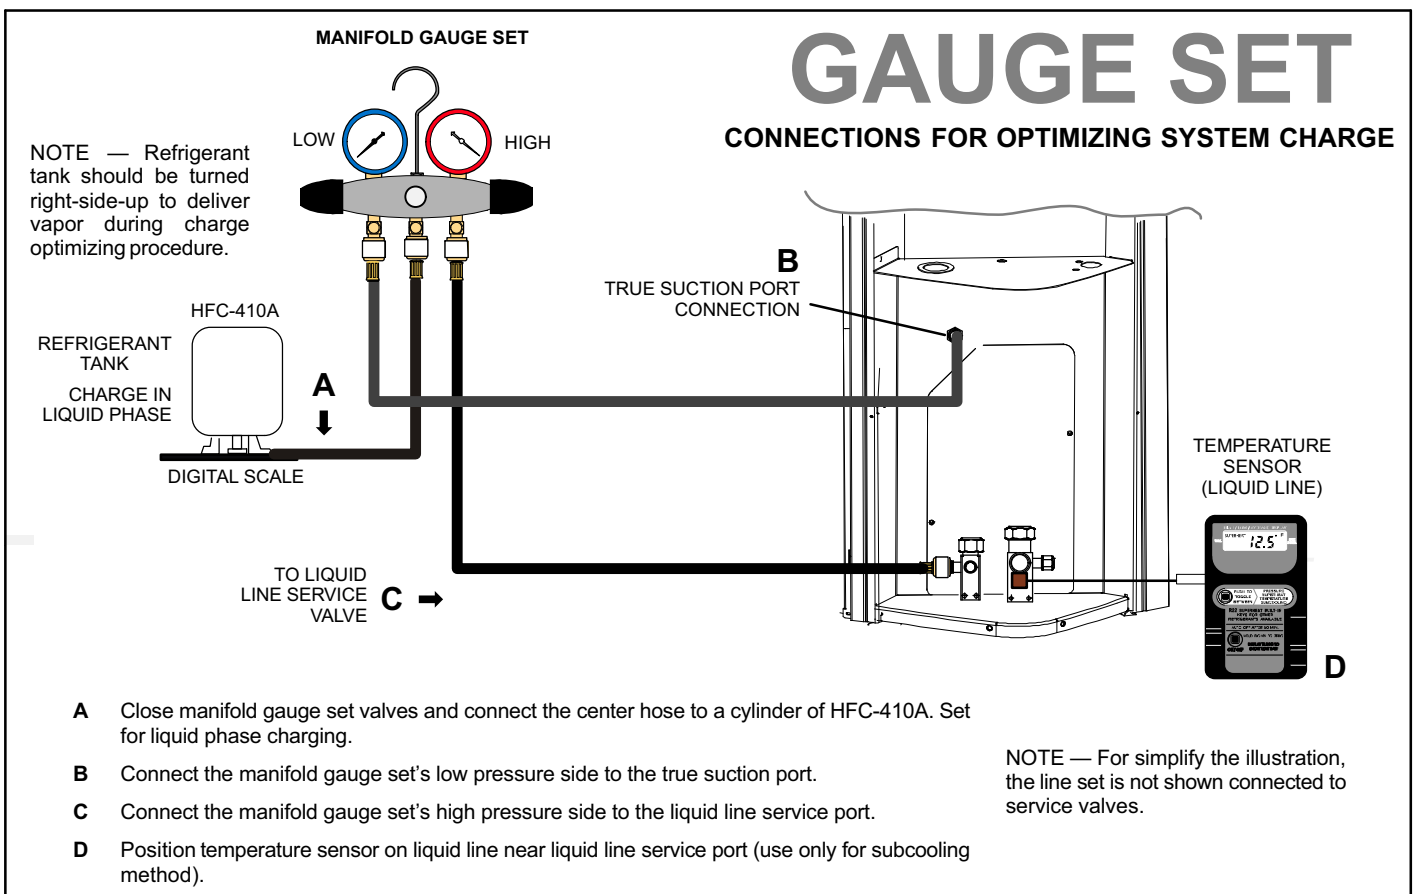

Figure 17. Typical Gauge Set Connections for Initial Weight-in Charge or Optimizing System Charge
3. Verify that the manifold gauge set is connected as illustrated in figure 17. Use a temperature sensor positioned near the liquid line service port as illustrated in figure 17 which will be required later when using the subcooling method for optimizing the system refrigerant charge.
After the evacuation procedure, reconnect the manifold gauge set as illustrated in figure 17.
*NOTE - Temperature sensor illustrated in figure 17 is not required for initial system weigh in charging.*
1. Close manifold gauge set valves and connect the gauge set as exemplated in figure 17.
1. Move the low-side manifold gauge hose from the vapor line service valve to the true suction port (see figure 17).